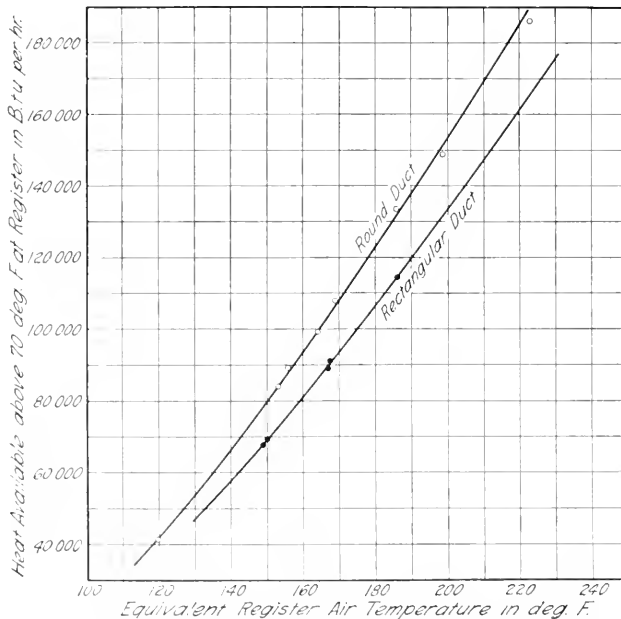

FIG. 9. REGISTER AIR TEMPERATURE-HEAT AVAILABLE RELATION FOR TESTS OF TWO TYPES OF RECIRCULATING DUCTS
*Results of Tests.*—The results of the tests are shown in the curves of Fig. 9, in which the heat available at the registers above 70 deg. F. is plotted against register air temperatures.